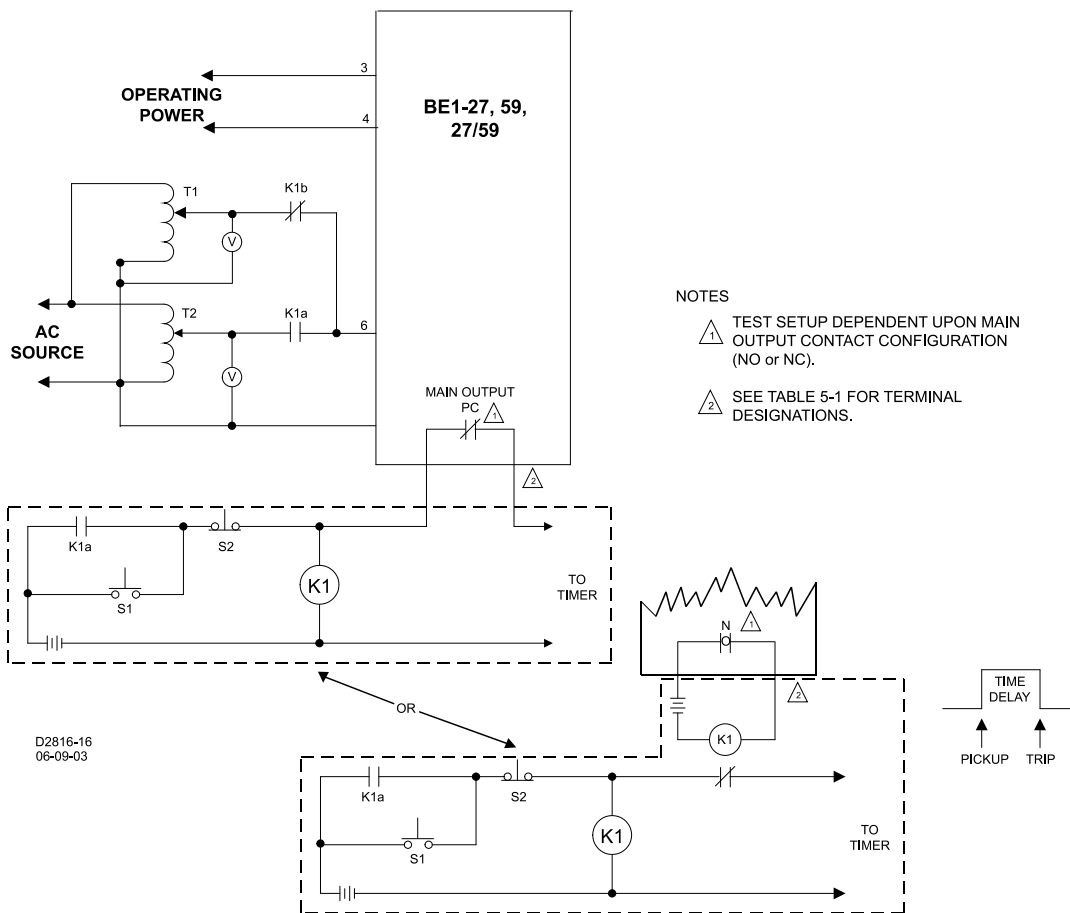

Figure 5-2. Timing Test Circuit Diagram
- Connect the test circuit shown in Figure 5-2. Output terminal connections are dependent on the function to be tested. See Table 5-1.